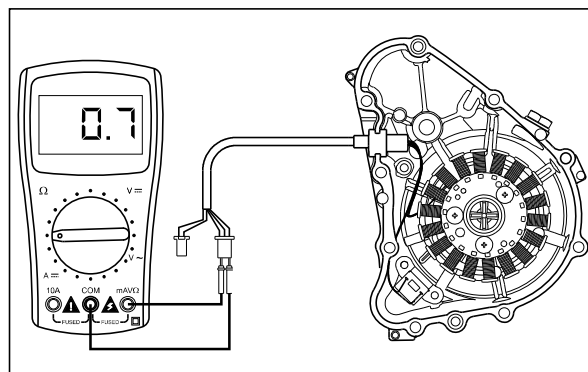

Fig. 5.10
- There are two yellow wires (Y) coming out of the stator assembly. Connect the pocket tester (+ve) lead to the first yellow wire (Y) and (-ve) lead to second yellow wire (Y) and measure the resistance. (Fig. 5.10) If resistance is not within the specified limit, replace the magneto stator assembly with a new one.